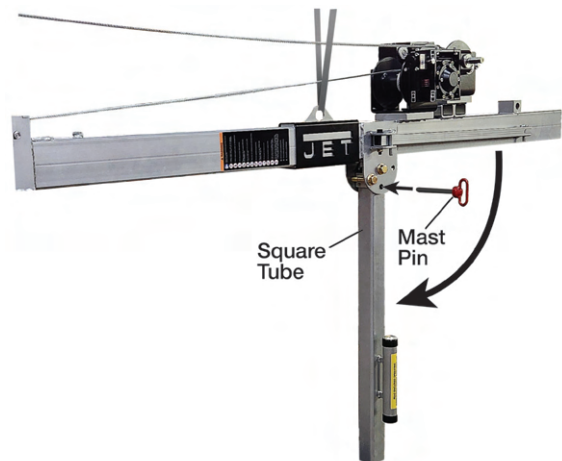

Figure 6-4: Positioning Square Tube
6. Support the square tube and remove the mast pin from the mast pivot bracket. Swing the square tube down so it is perpendicular to the mast (see Figure 6-4). Reinsert the mast pin through the mast pivot bracket and square tube to lock the square tube in this position. Secure the pin using the spring cotter pin.